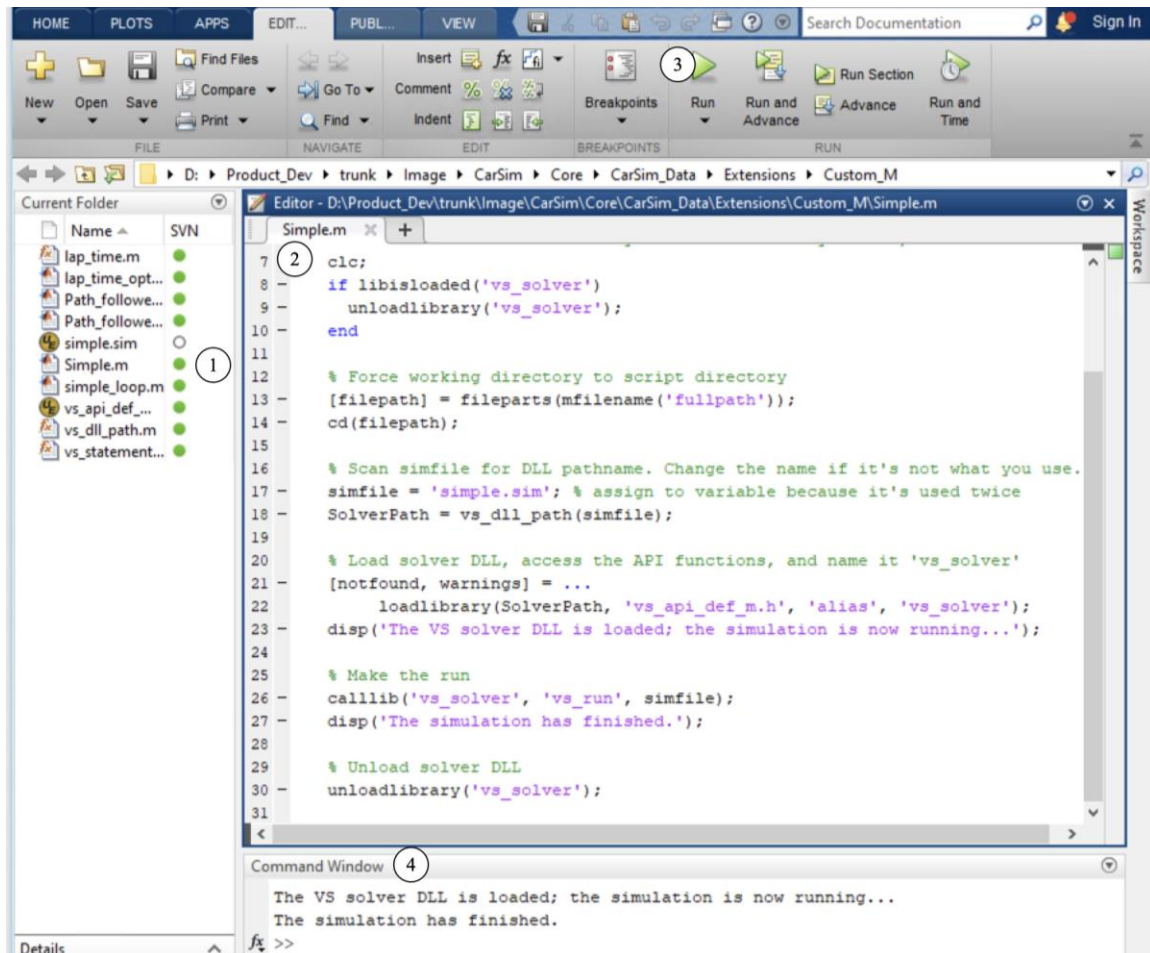

Figure 11. Running a VS Math Model using the `vs_run` function from MATLAB.
To run the simulation from MATLAB (Figure 11), load the `simple.m` file (1) into MATLAB (2) and run it using a menu control, MATLAB command, or **Run** button (3) (the details for how you control MATLAB depend on the version). Status of the simulation is shown in the **Command Window** (4).